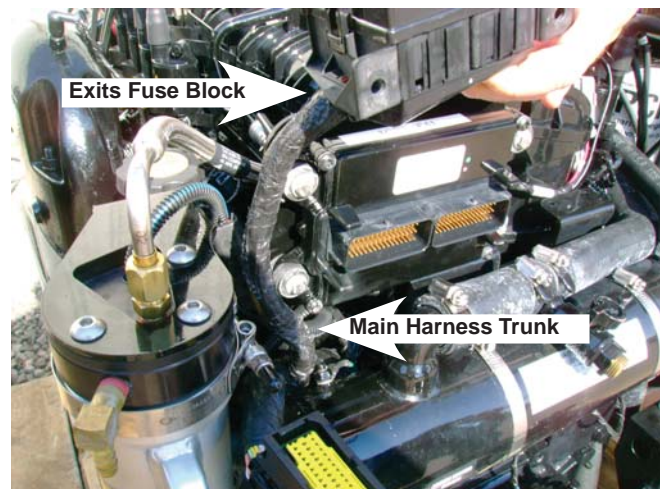

Figure 2 - Harness Inspection Area
3. Inspect the wiring harness in the area shown. Completely inspect the harness from where it exits the Fuse Block down to the main harness trunk as indicated in Figure 2. If there is no damage present to the wiring harness, proceed to **Securing and Protecting the Wiring Harness**.